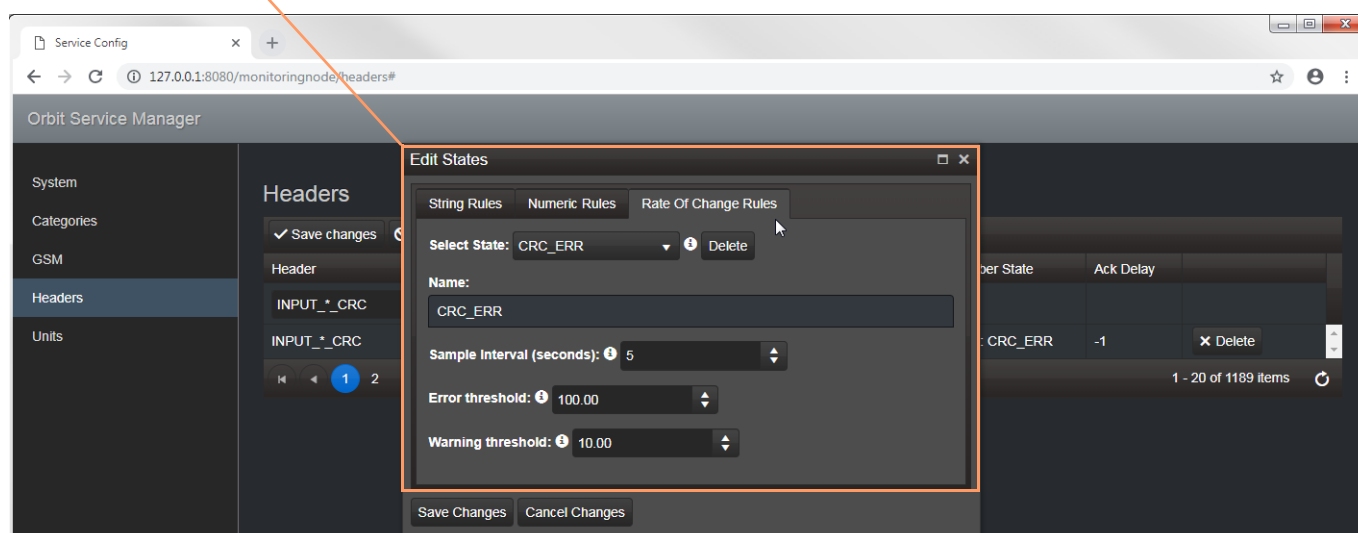

Fig. 9-23: Edit a Rate of Change Rule
- 4 Set up a rule for the Orbit Monitoring system. (See Figure 9-23 on page 303.)